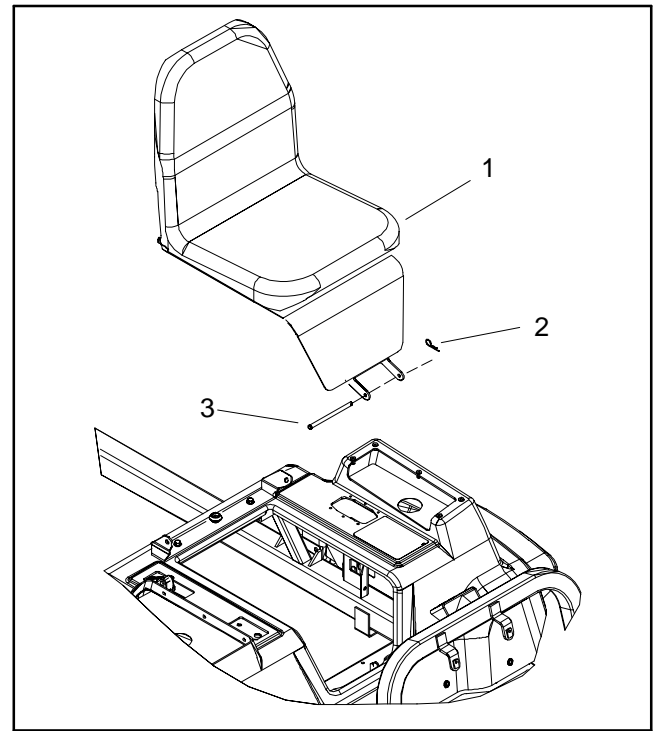

Figure 20
3. Remove seat assembly by tilting seat forward and removing hitch pin and clevis pin (Fig. 20).
6. Remove flange head screw (item 6) that secures right hand inner panel (item 16) to L bracket (item 7).
7. Remove eight (8) flange head screws that fasten seat base to machine. During screw removal, locate and remove washers and spacers. The two (2) screws directly behind the front wheels are secured with flange nuts (item 15).